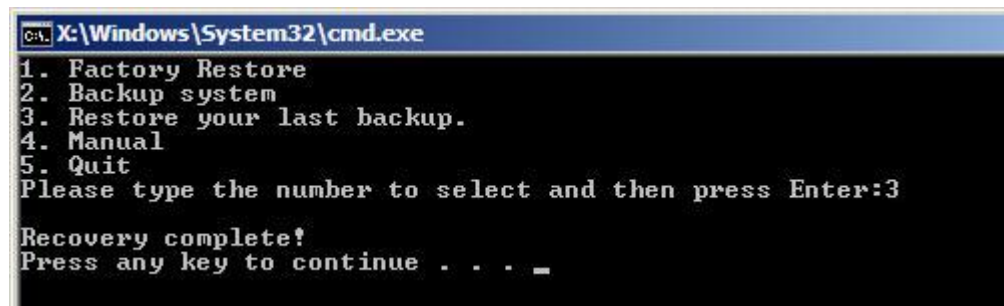

Figure B-40: Restore System Backup Complete Window
Step 3: The screen shown in **Figure B-40** appears when backup recovery is complete. Press any key to reboot the system.